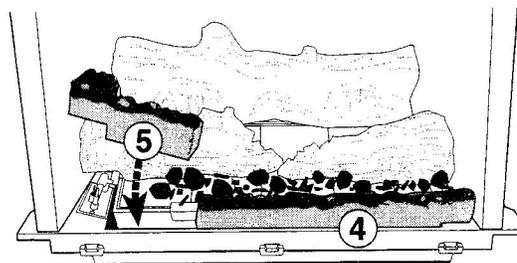

Figure 15. Install the Front Logs. Loosely spread the Lava Rocks between the front and middle logs.
6. Place the two Front Ember Log sections (4, 5) in the slot at the front of the firebox as indicated in Fig. 15.
7. Loosely sprinkle the Lava Rocks directly on top of the burner plate in between the front logs and middle logs. *Do not place any ember material behind the middle logs. Do not layer the lava rocks on top of each other.* Fig. 15.
8. Engage the Upper Log (6) with the anchor knob on the Rear Log and adjust its position so that the right branch is 6 3/4" away from the end of the lower right log.